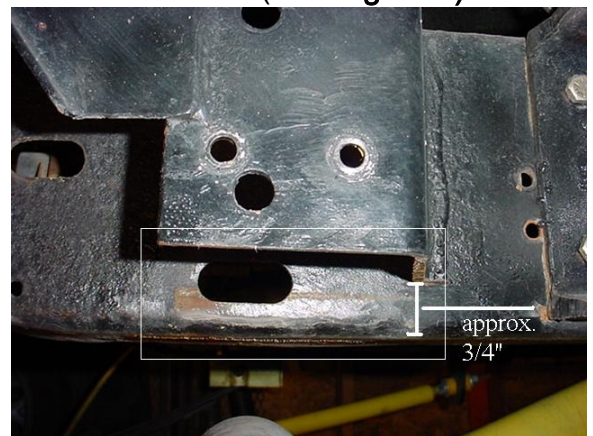

FIGURE 1
10. Using a 4" grinder or cutoff wheel, remove  $\frac{3}{4}$ " from the bottom of mount (See Figure 1). Be sure to grind it smooth so the new inverted mount will sit flush.